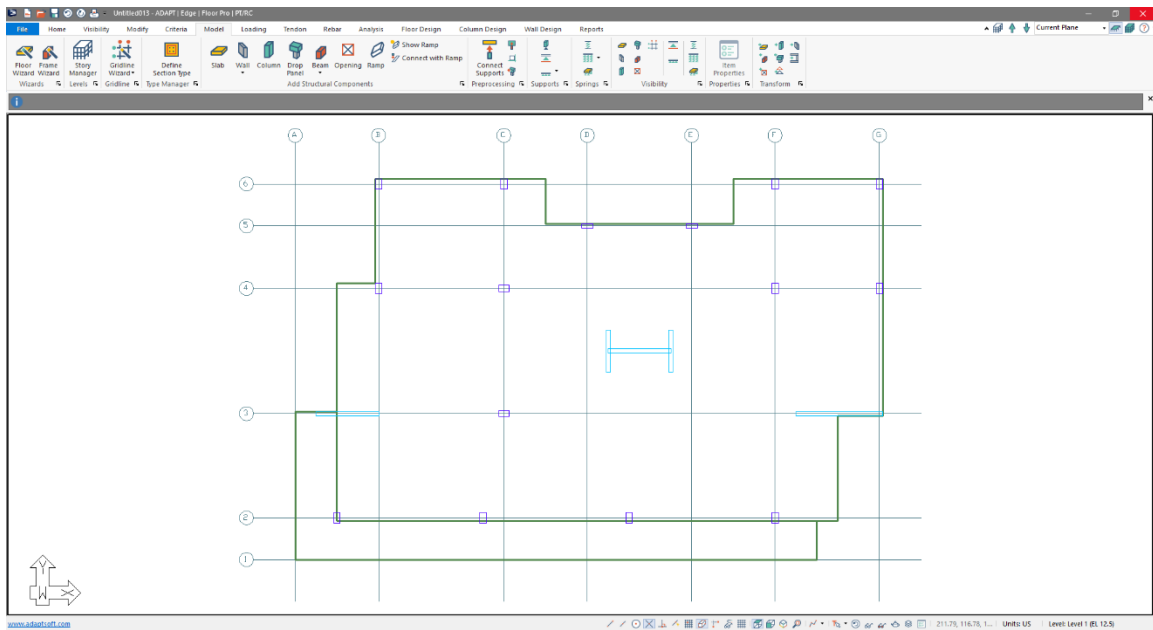

Figure 2-32
- Click on the *Zoom Extents*  icon. The user should see the slab, columns and walls modeled as shown in **FIGURE 2-32**.